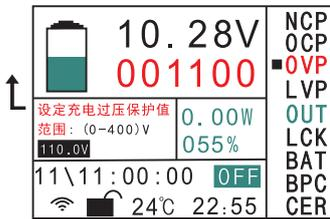

Figure 4-3
3). "**OVP**" Charge overvoltage protection value, if the value is greater than 0 will start the protection, if equal to 0 will not start the protection function. When setting the parameters, press the  $\uparrow\downarrow$  key to move the cursor to **OVP**, and then click the **OK** key to enter into the parameter setting interface of Figure 4-3, setting the parameters in the same way as NCP.